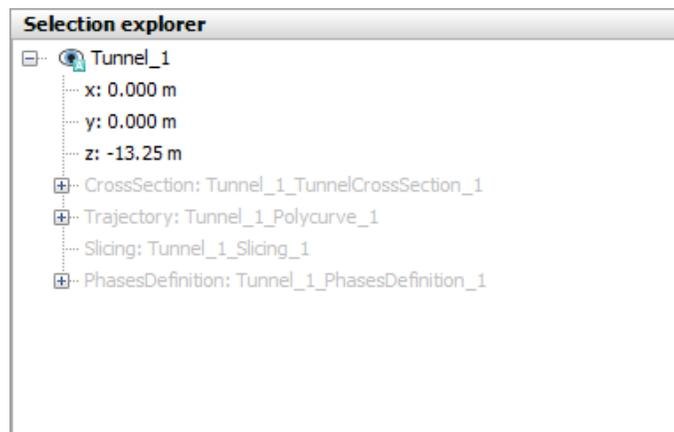

Figure 61: Insertion point of the tunnel
4. In the **Selection explorer** set the insertion point of the tunnel to (0 0 -13.25) as shown in Figure 61 (on page 87).